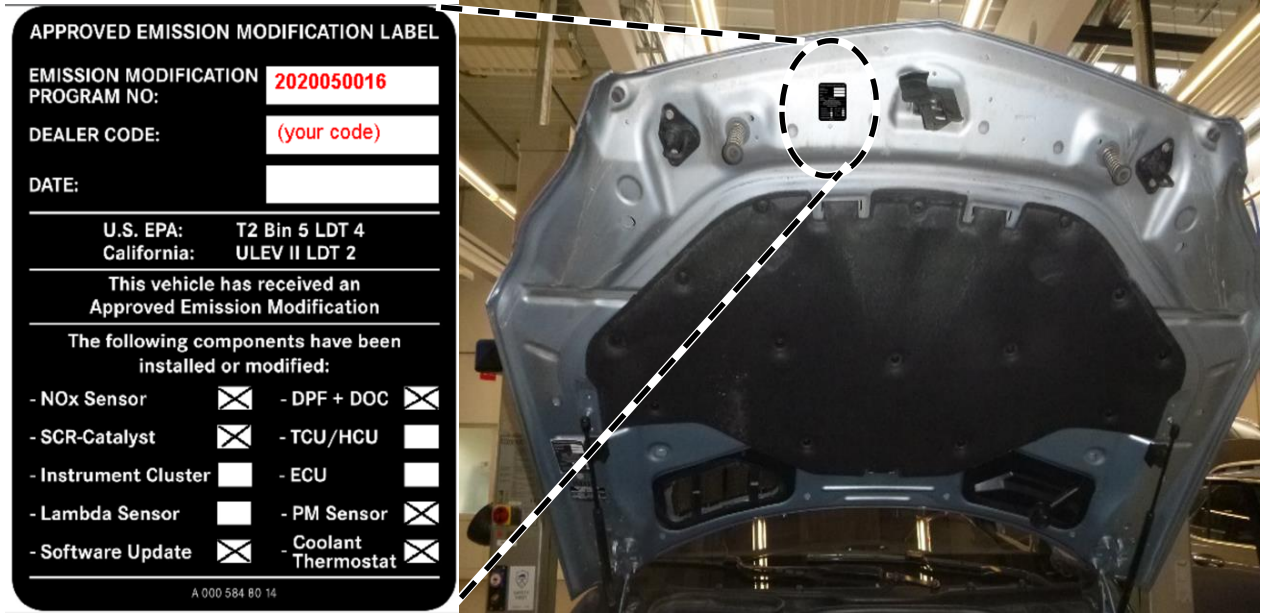

Figure 12
10. Clean the bonding surface of the hood and attach the adhesive label (Figure 12).